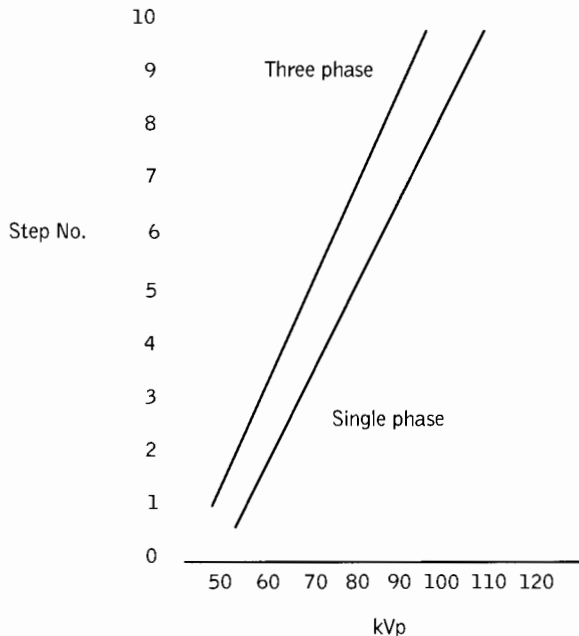

Fig 3–8. kVp test cassette calibration chart, suitable for region C (100 kVp)
- The chart will have two graphs on it, one for a **single phase** unit and one for a **three phase** unit (see Fig 3–8)